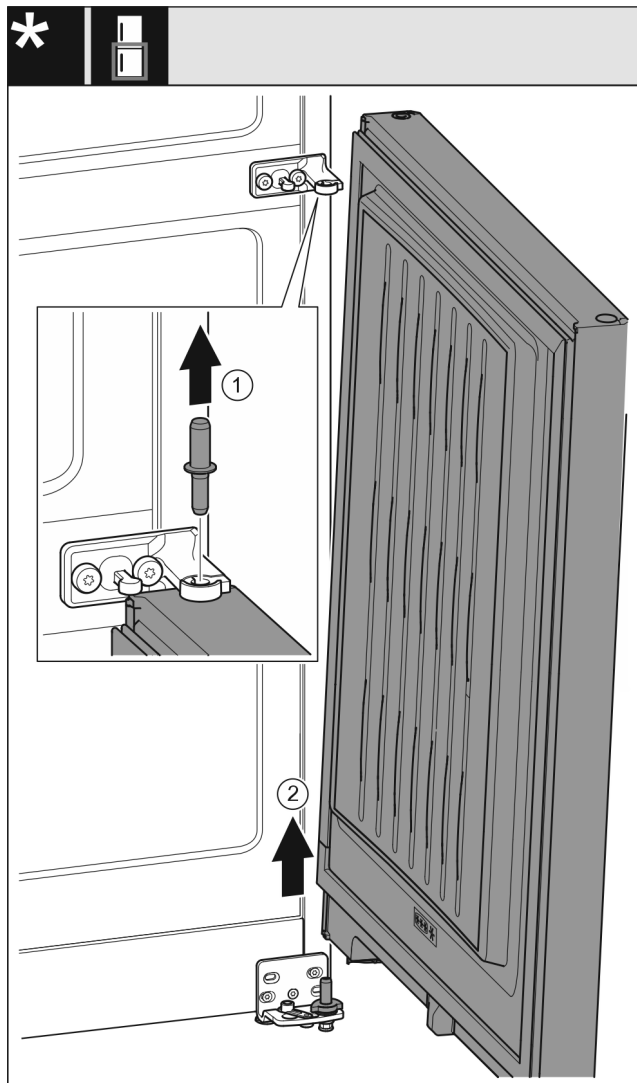

Fig. 10 Without closing damper
- Pull out the bolt Fig. 10 (1) upwards.
- Swing out the door Fig. 10 (2), pull it upwards and set it aside.